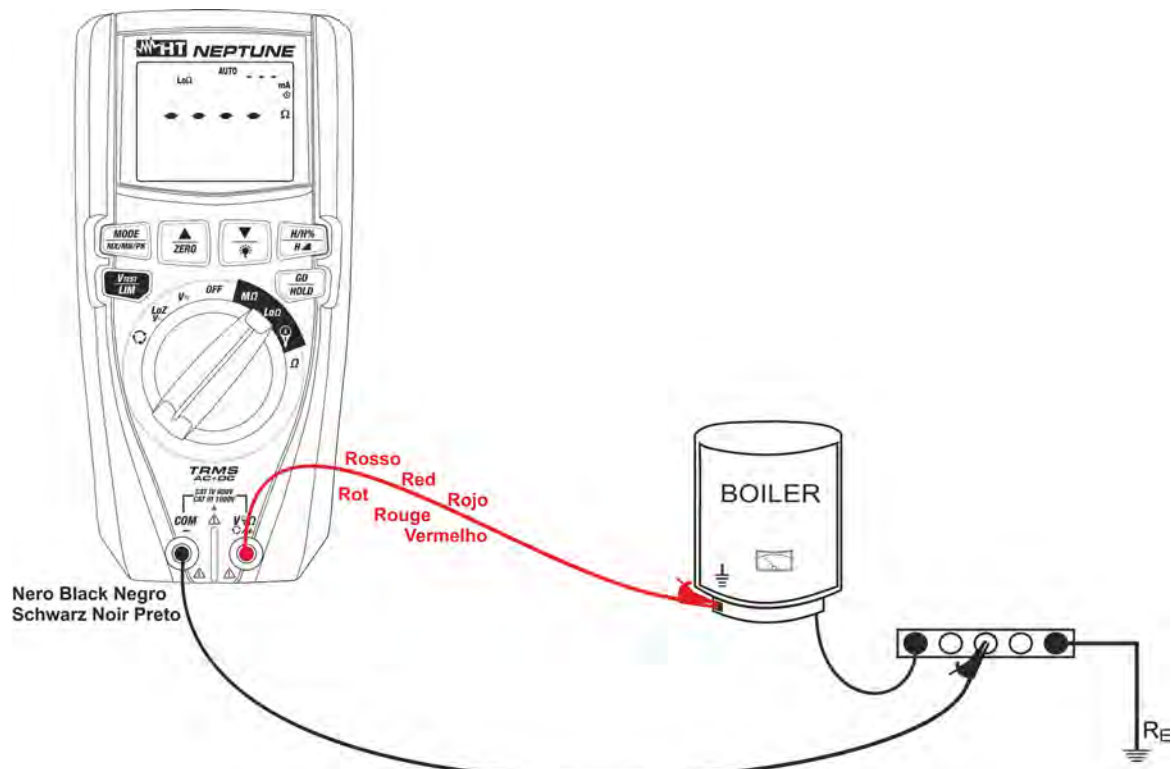

Fig. 25: Use of the instrument for continuity test in AUTO mode
7. Insert the red lead into input terminal **V Ω /+** and the black lead into input terminal **COM/-**, and connect the instrument to the system to be tested (see Fig. 25).